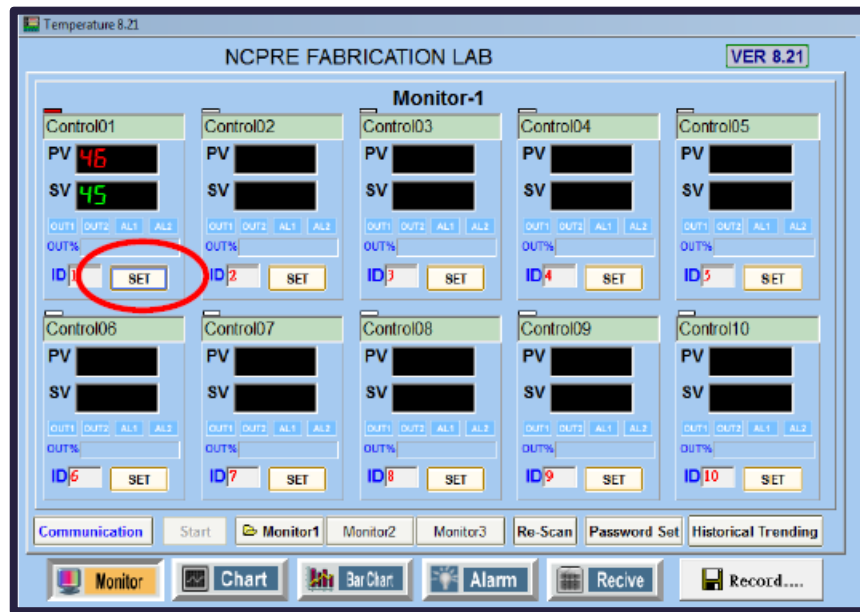

Figure. 20
- Enter the recipe to be run in the software. Click on “SET” in Control01 (Figure. 20).